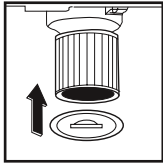

Fig. 4
4. Set the filter cap over the filter cartridge, in the lip. Tighten turning the cap clockwise. Do not tighten too much (Figs. 4 and 5)